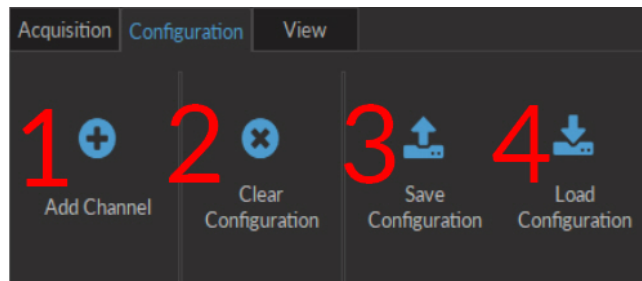

Figure 3.30: Configuration Tab
1. The **Add Channel** button (Fig. 3.30) opens the **Channels configuration** window. This window is detailed in section 3.2.1.
2. The **Clear configuration** button (Fig. 3.30) resets the acquisition view and all other parameters set. Any configurations already set will be lost.
3. The **Save configuration** button (Fig. 3.30) allows a console configuration to be saved in the **.doric** format. This file will only preserve the configuration of each current channel.
4. The **Load configuration** button (Fig. 3.30) allows a console configuration in **.doric** format to be loaded.